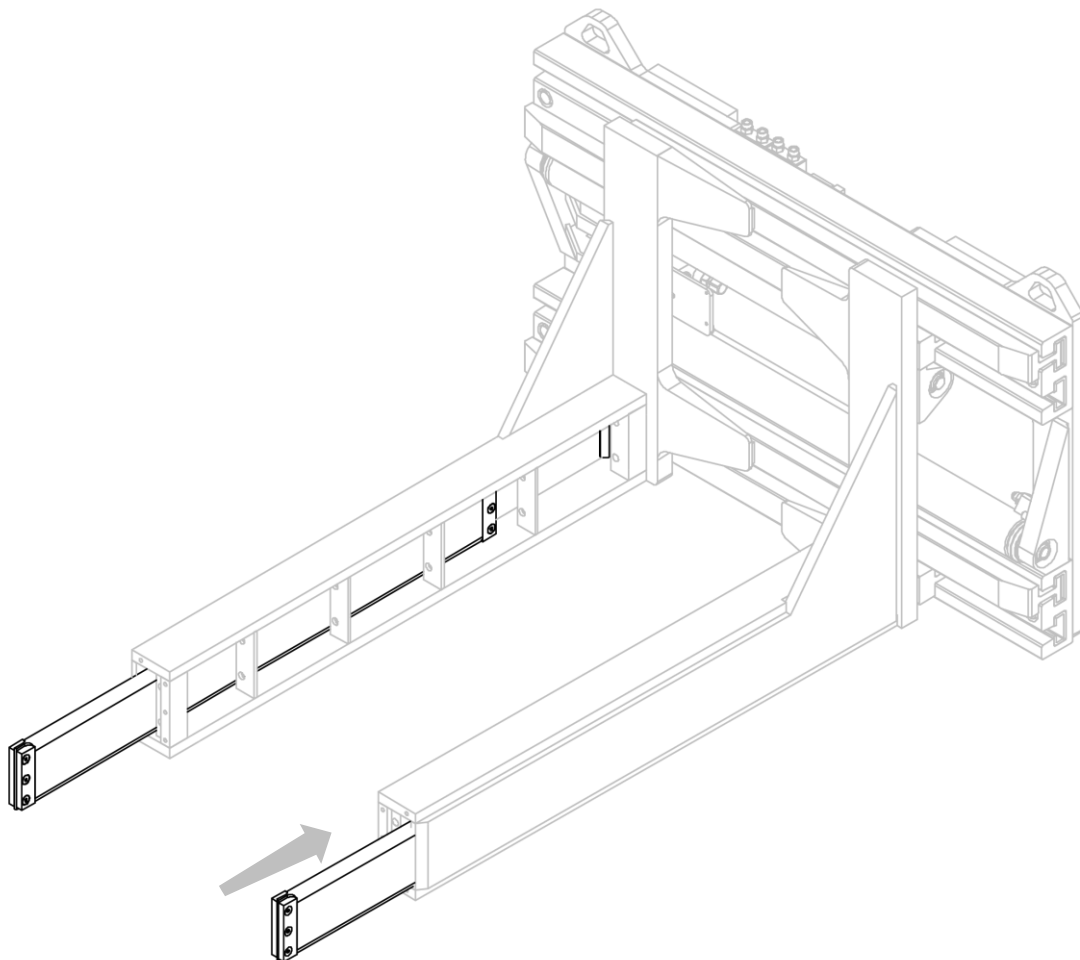

Figure 17
2. Place the rubber buffers into their housings (see *Figure 17*).